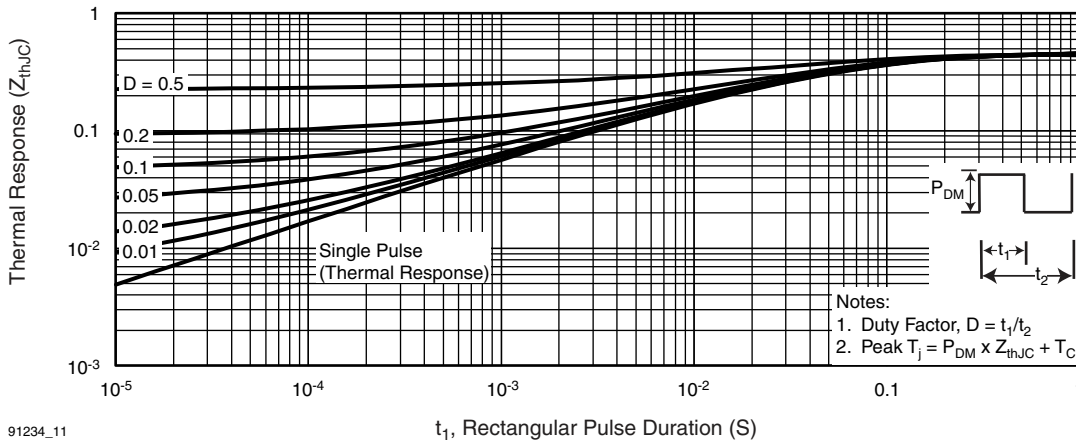

Fig. 12 - Maximum Effective Transient Thermal Impedance, Junction-to-Case
- Starting $T_J = 25\text{ }^\circ\text{C}$, $L = 4.3\text{ mH}$, $R_g = 25\text{ }^\circ\Omega$, $I_{AS} = 20\text{ A}$ (see fig. 12)